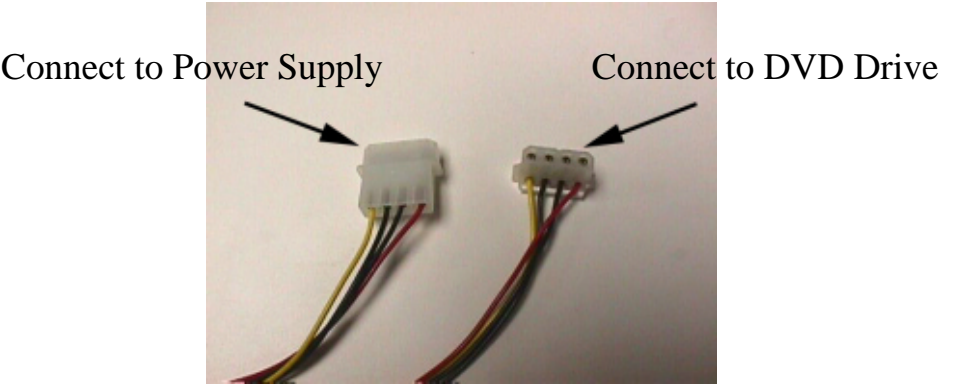

Figure 9
Step 9. Connect the power cables to the power supply and the DVD Drive as shown in Figures 9, 10, and 11.